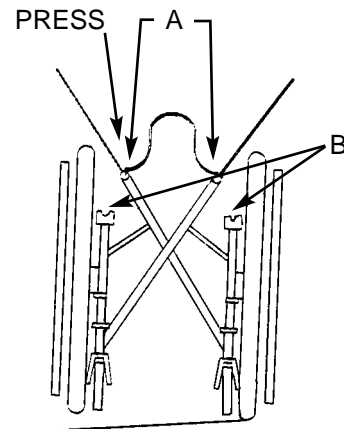

Figure 3
- 3 Stand at one side of the folded Mini-Meteor. Tilt it slightly to balance on one rear wheel and simultaneously press down on the opposite side of the seat and push until the wheelchair is fully open. **Check that the seat tubes (A) have located into their cradles (B)** (see FIG 3).